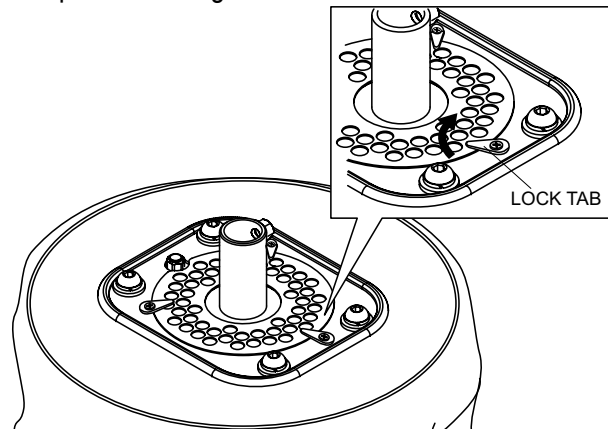

Figure 47. Locking Air Plate
6. Turn the three locking tabs inwards to lock the air plate in place. See Figure 47.